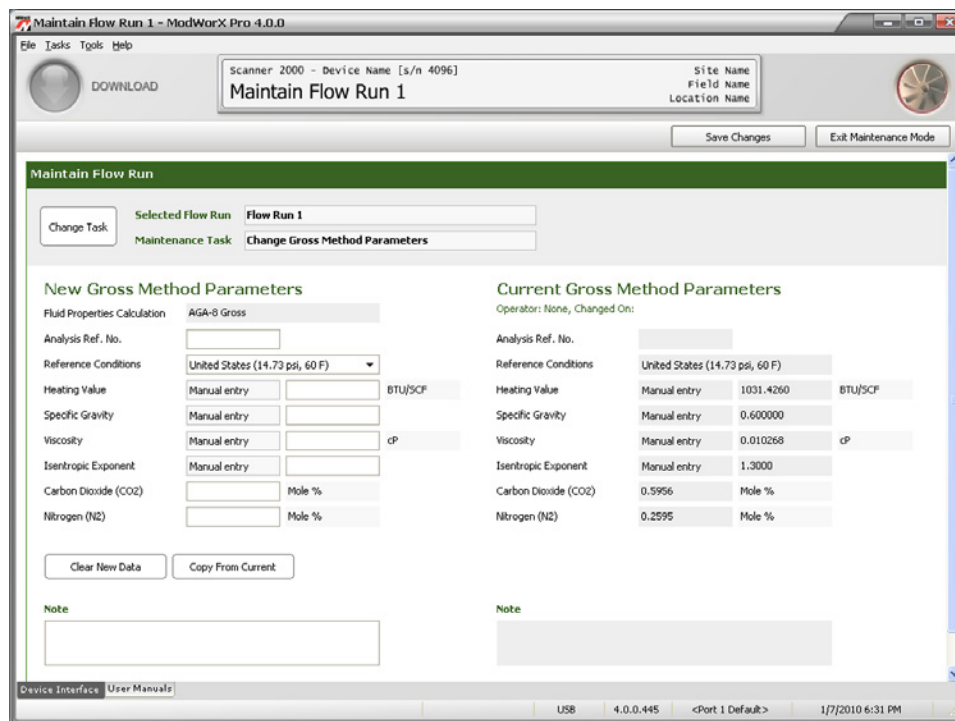

Figure 11.10
- b. Click **OK** to save the settings and return to the Maintain Flow Run screen (Figure 11.10).